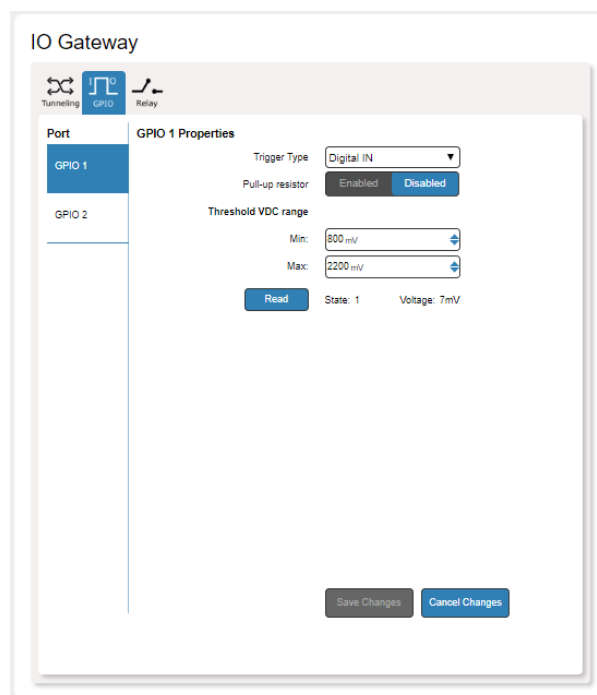

Figure 43: IO Gateway Page – GPIO Tab
2. Click **GPIO**. The GPIO tab appears (see Figure 43).